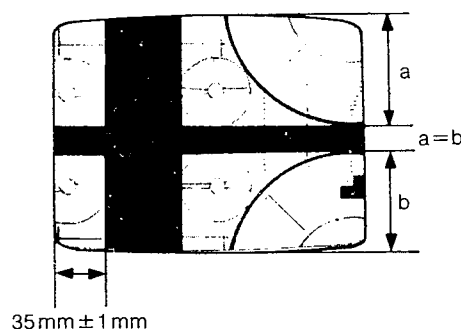

Figure 20
3. Adjust P.C. V-POSITION control (R428) until horizontal blanking line becomes at the vertical center on picture tube screen. (See figure 20.)
3. Adjust P.C. H-POSITION control (R555) until the length between left screen edge and vertical blanking line becomes approximately 35mm. (See figure 20.)